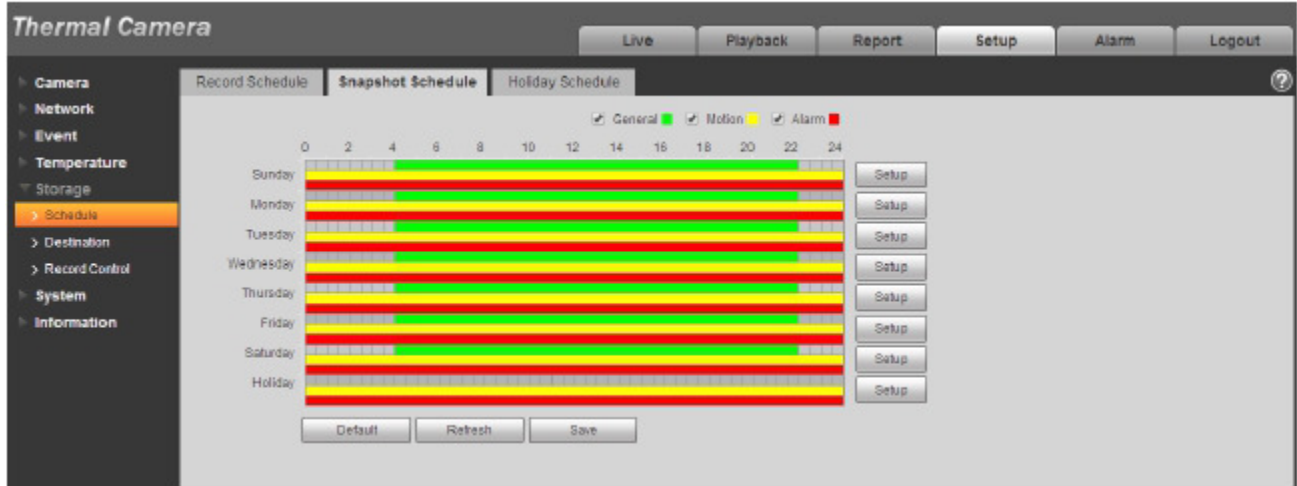

Figure 5-62
Step 3. Click on OK, return to snapshot schedule interface. See Figure 5-62.